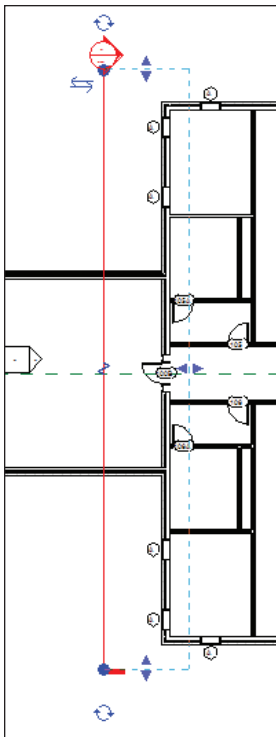

FIGURE 3.58 Adding another section to the model
4. This time, pick a point above the corridor that connects to the east wing of the building for the section head, and then pick a point well below the bottom of the corridor, as shown in Figure 3.58.